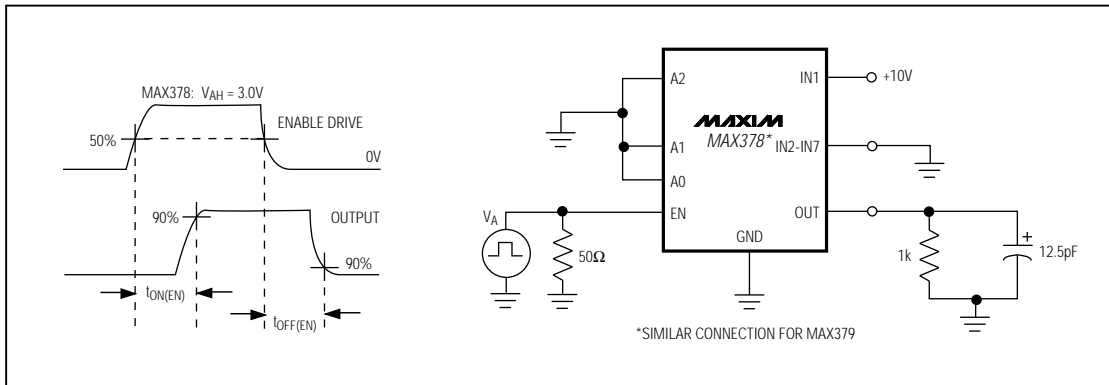

Figure 3. Enable Delay ($t_{ON(EN)}$, $t_{OFF(EN)}$)
| Enable Delay (ON) | t _{ON(EN)} | Figure 3 | +25°C | 400 | 750 | | 400 | 1000 | | ns |
| Enable Delay (OFF) | t _{OFF(EN)} | Figure 3 | +25°C | 300 | 500 | | 300 | | | ns |